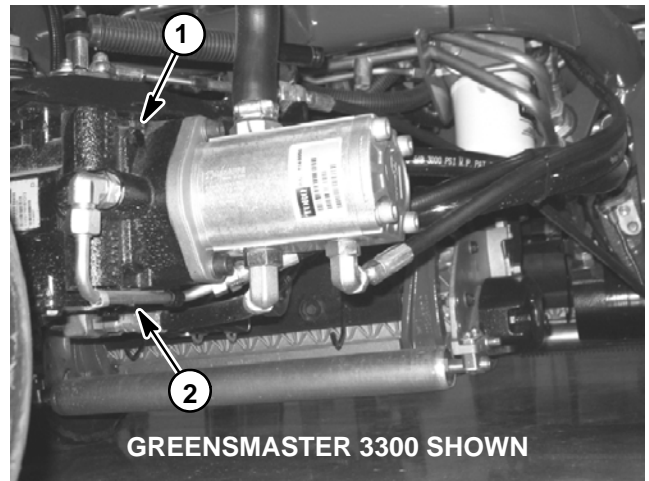

Figure 20
1. Make sure hydraulic oil is at normal operating temperature by operating the machine for approximately ten (10) minutes.
3. Thoroughly clean junction of hydraulic hose and hydraulic tube that runs under piston (traction) pump (Figs. 20 or 21). Disconnect hydraulic hose from the hydraulic tube.